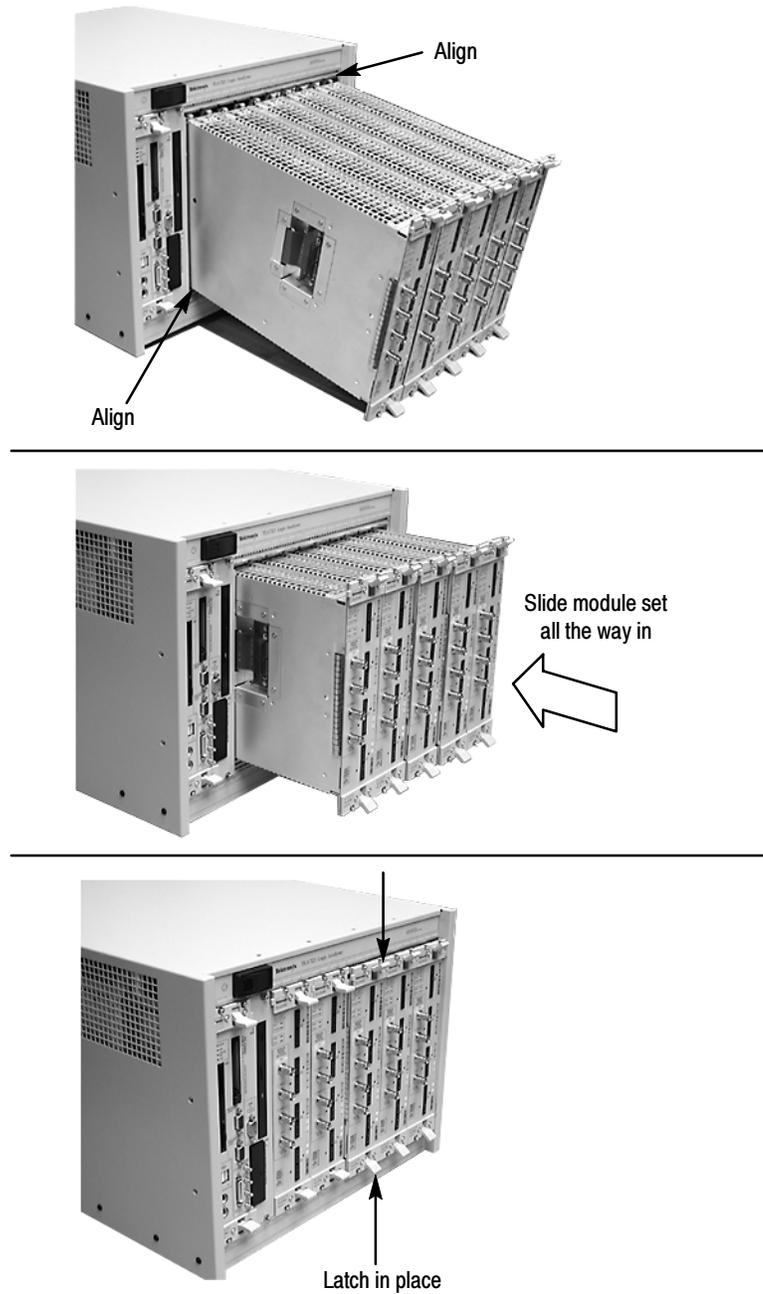

Figure 20: Installing the merged module set in the mainframe
10. Align the tops and bottoms of the modules with the slots in the mainframe (see Figure 20 on page 30). You may need the help of another individual if your merged module set contains more than two modules.